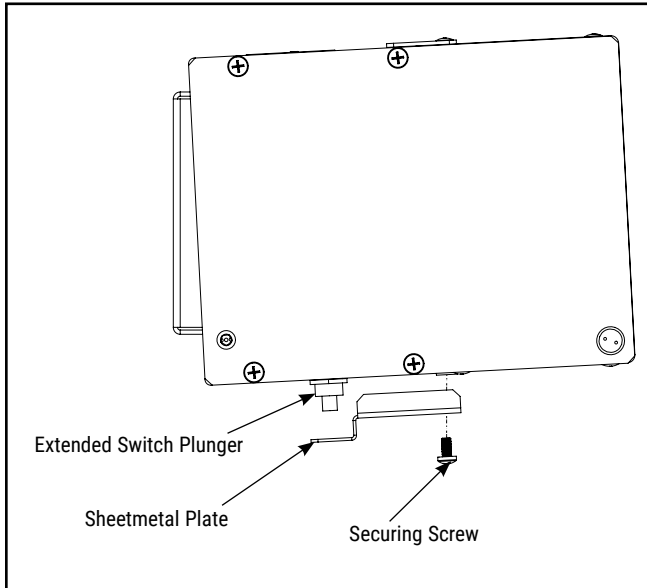
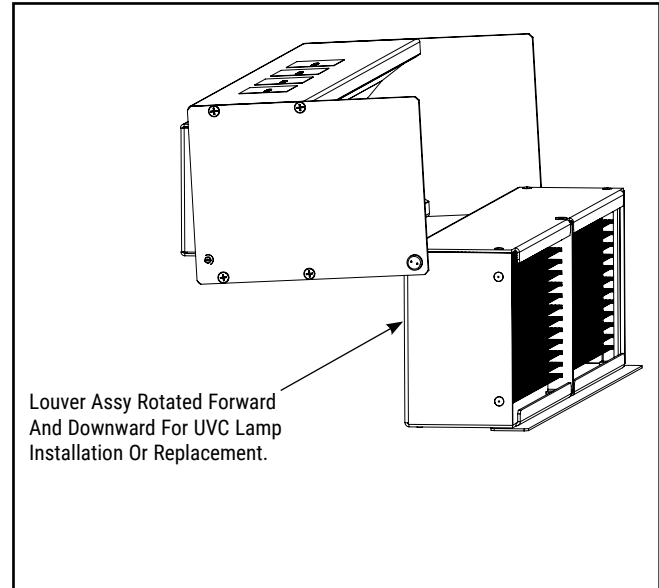

Figure 4.
Figure 5.
1. Remove screw securing sheet metal plate to bottom of housing and remove the plate. See Figure 4. Note that in doing so, the plunger of a safety switch will extend. This switch is a safety feature that will ensure the extinguishing of the UVC lamp. This safety feature is NOT a suitable substitute for failing to disconnect AC service at the breaker during future relamping.
2. Rotate louver assembly forward and downward to access UVC lamp chamber. See Figure 5. Insert lamp into lamp holders and rotate lamp to secure it. Rotate louver assembly back into original position and replace sheetmetal plate and screw removed in Figure 4. Ensure that plunger of safety switch is depressed by the sheetmetal plate.